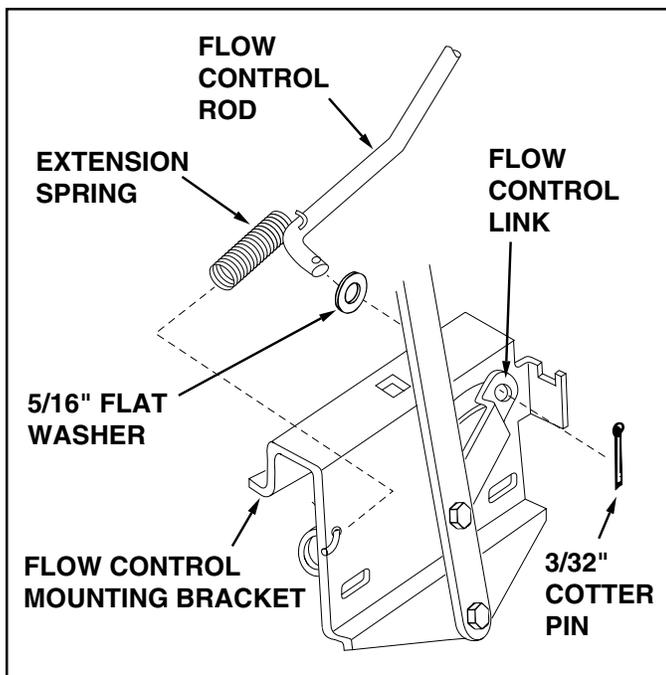

FIGURE 11
19. Place a 5/16" flat washer over the end of the flow control rod. Insert the end of the rod through the slot in the flow control mounting bracket and through the hole in the flow control link. Secure with a 3/32" x 3/4" cotter pin. See figure 11.